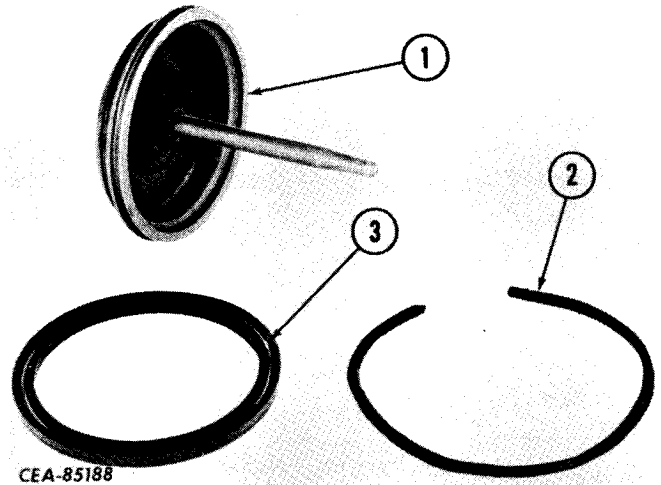

Figure 13-61
Remove the air cylinder piston cup (3, Fig. 13-61) and wiper (2) from the piston (1).